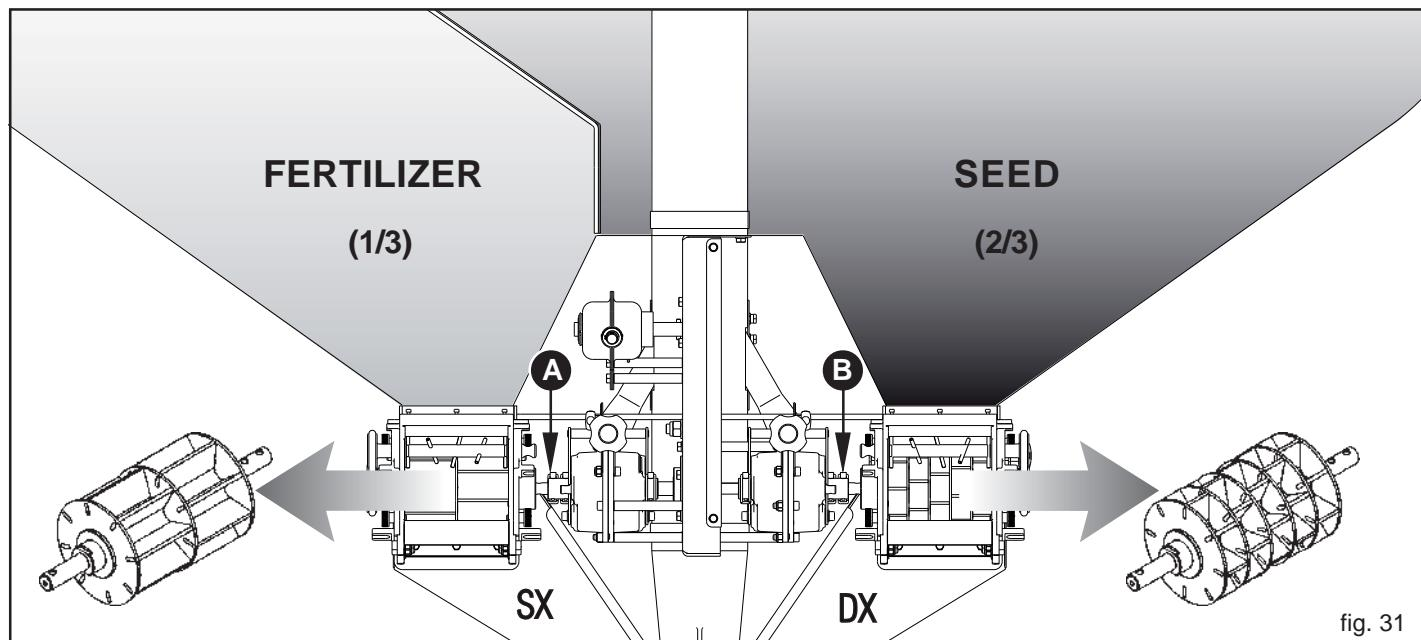

fig. 31
Figures 31 and 32 show the two possible configurations for seed/fertilizer distribution:
- 1) SEED-FERTILIZER (Fig. 31);
The hopper is divided into two compartments: the capacity of the seed compartment equals 2/3 of the total capacity; that of the fertilizer or seed compartment, depending on the configuration in use (Fig. 31 and 32), is 1/3 of the total.
3.4.4.1 SEED-FERTILIZER CONFIGURATION (Fig. 31)